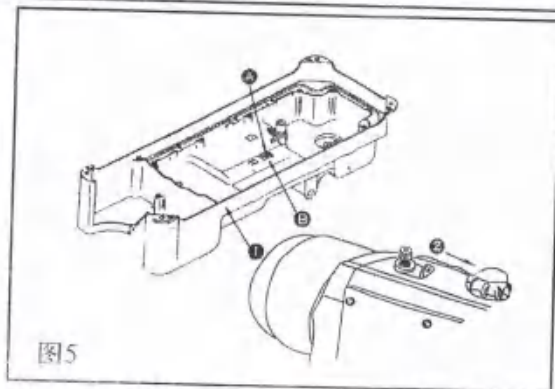

图5
5. 机器的润滑 (图5、图6) LUBRICATION (FIG.5)
1. Information on lubrication(Fig.5)